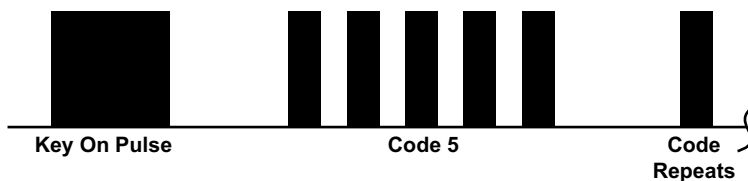

Figure 4-11 Acura engine Code Type 02
- Type 02, see Figure 4-11 and Table 4-3